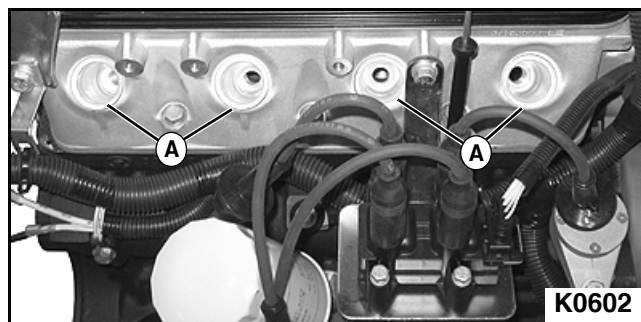

Figure 3-27
3. Remove spark plug tubes from cylinder head (A). See Figure 3-27.